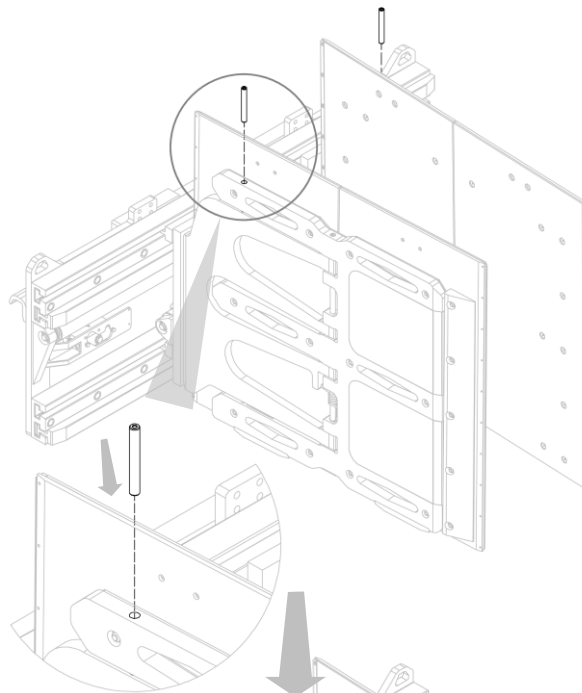
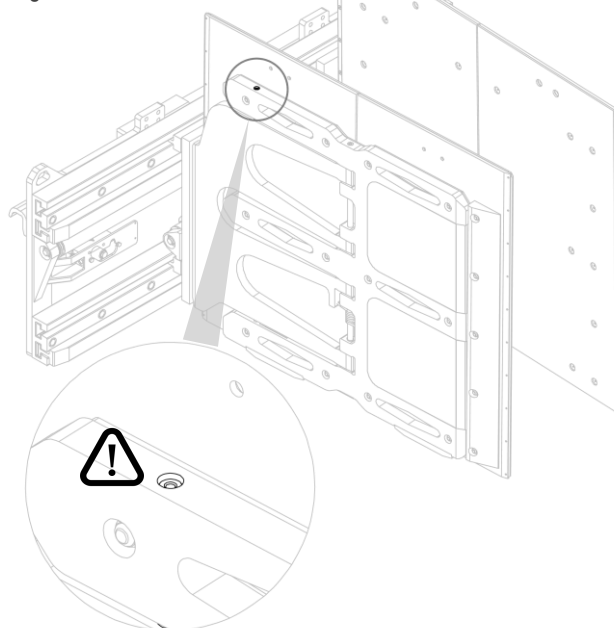

Figure 37
Figure 38
2. Insert the upper swing stop pins, one at a time, into the holes in the jaw (see *Figure 37*).
- N.B.** The pin fits into the fork stop, so when inserting the pins, the fork and jaw holes must match, and therefore the jaw swing on the fork must be 0° (see *Figure 37* and *Figure 38*).